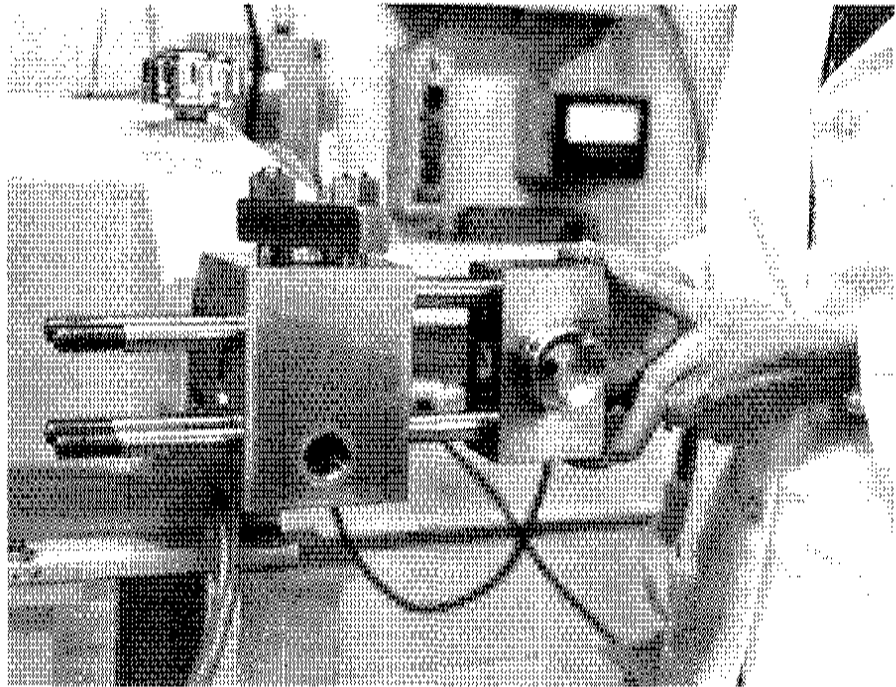

Figure 3-8
Remove handwheel (26) and handwheel support (27). See Figure 3-8 for two-stage assembly.)
Remove valve body (55). (See Figure 3-8 for two-stage.)